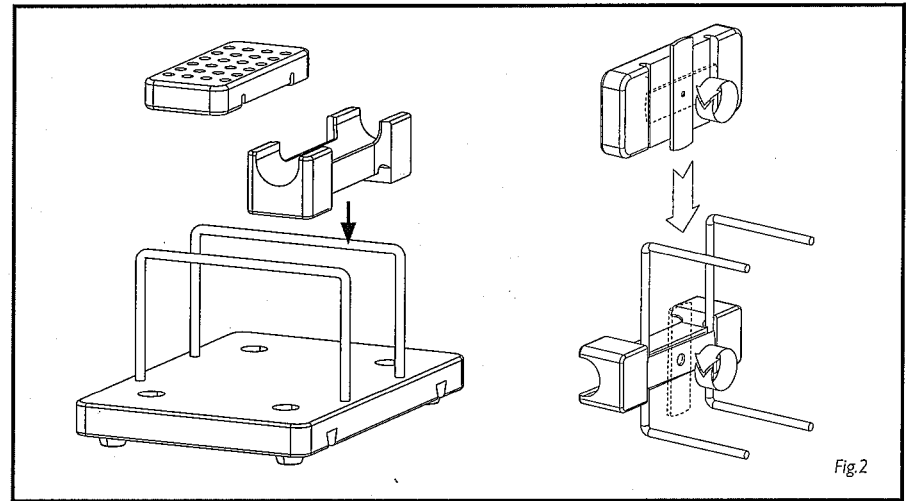
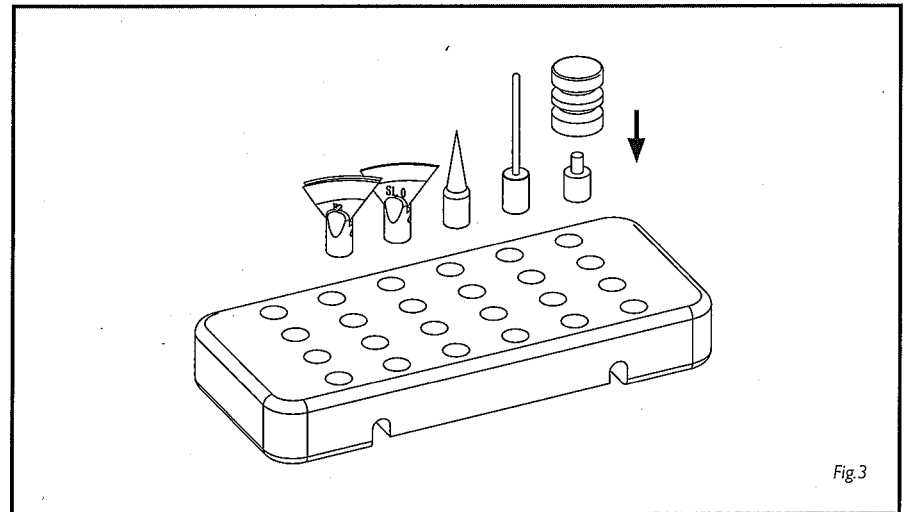

Fig.2
Fig.3
- Assemble stands as shown in Fig 2 and Fig 3.